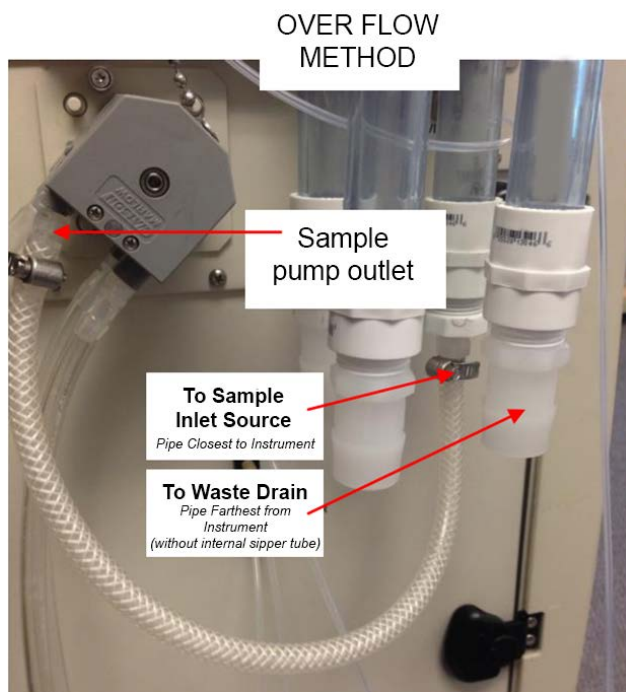
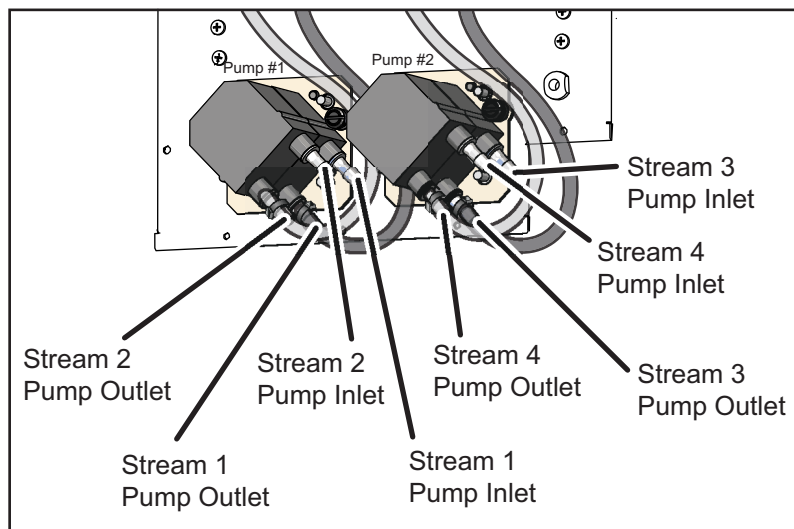

Figure 17: 2-Stream Wastewater Sampler, Sample Peristaltic Pump Connections: Overflow Mode
Figure 18: 5-Stream Wastewater Sampler, Sample Peristaltic Pump Connections: Overflow Mode
*NOTE: When using the Wastewater Sampler System (in Overflow Mode), the Pump Outlet tubing **must be connected during installation**. See Figure 17 on page 87 and Figure 18 on page 87.*